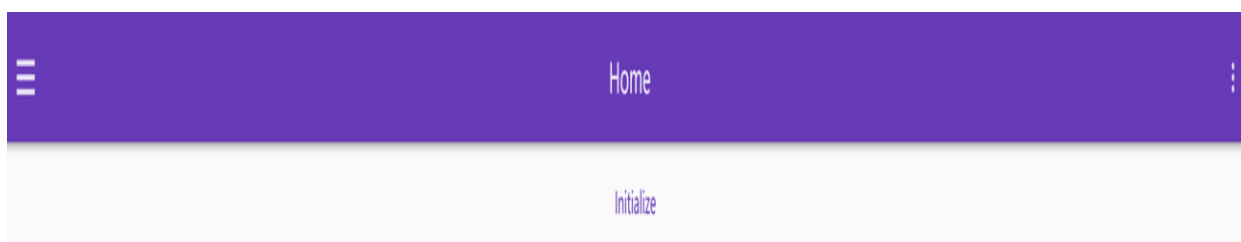

Figure 3. Initialization Interface
9.5.1.3. The initialization interface is displayed, as shown in following figure 3.